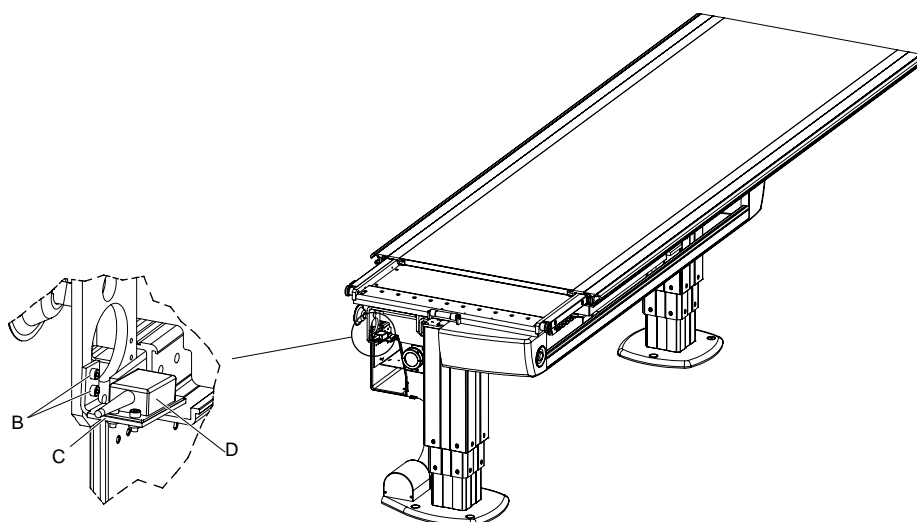

Fig. 4-151
- c. Loosen the bolts (B), see Fig. 4-151, and angle the bracket (C) until the output of the tilt sensor (D) is $3\text{ V} \pm 0.2\text{ V}$.